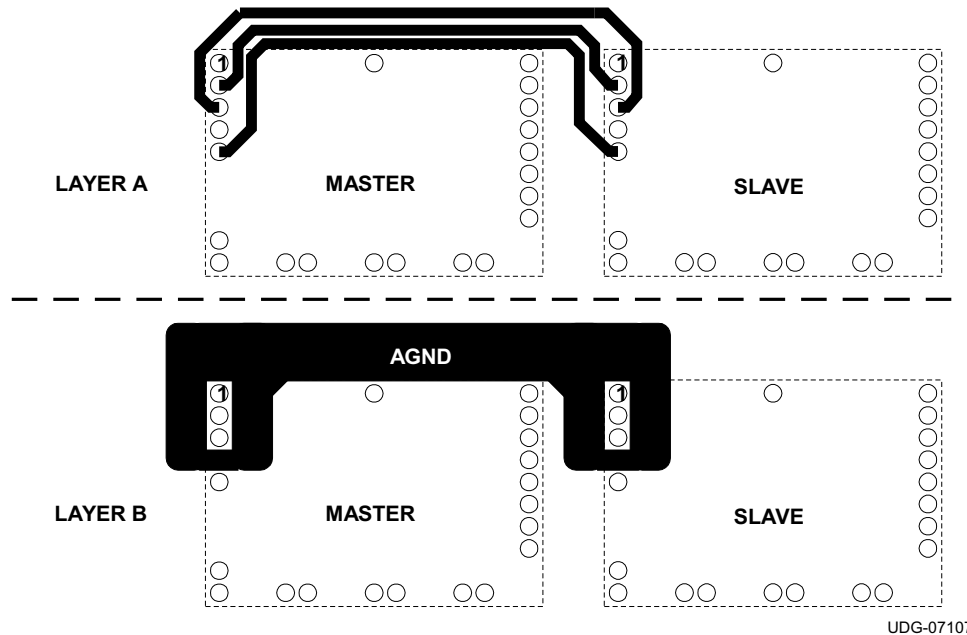

Figure 22. Recommended Layout of Inter-Connection Pins Between Two Current Sharing Modules
The PTH08T255W module is capable of being configured in parallel with another PTH08T255W module to share load current. To parallel the two modules, it is necessary to configure one module as the Master and one module as the Slave. To configure a module as the Master, connect the CONFIG pin (pin 1) to GND. The CONFIG pin of the Slave must be connected to  $V_I$ . In order to share current, pins 2 thru 5 of both the Master and Slave must be connected between the two modules. See Figure 22 for the recommended layout of pins 2 thru 5. The module that is configured as the MASTER is used to control all of the functions of the two modules including Inhibit ON/OFF control, AutoTrack sequencing, TurboTrans, SmartSync, +/- Remote Sense, and Output Voltage Adjust. See the current sharing diagram in Figure 19 for connections. The MASTER and the SLAVE must be powered from the same input voltage supply.
(1) For more details on the pin descriptions, please refer to the 'Terminal Functions' described in Table 1
(2) See Layer A in Figure 22 for recommended layout
(3) See Layer B in Figure 22 for recommended layout
In current sharing applications the  $V_I$  pins of both modules must be connected to the same input bus. The  $V_O$  pins of both modules are connected together to power the load. The GND pins of both modules are connected via the GND plane. Figure 22 shows the required layout of the inter-connection pins for two modules configured to share current. Notice that the Share (pin 2) connection is routed between the Comp (pin 3) and CLKIO (pin 5) connections. AGND (pin 4) should be connected as a thicker trace on an adjacent layer, running parallel to pins 2, 3 and 5. AGND must not be connected to the GND plane.